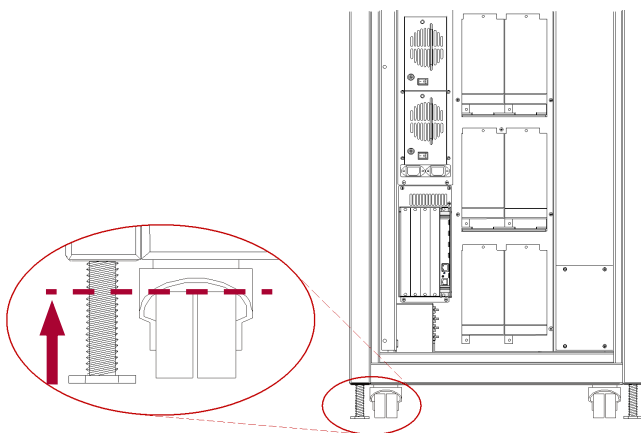

Figure 7. Raising the NEO 8000 Leveling Legs
c. Use a 10" adjustable wrench to raise the two **leveling legs** at least to the wheel tops (Figure 7).
d. Use the 10" adjustable wrench to loosen and raise the two **leveling legs** at least to the wheel tops (Figure 7).